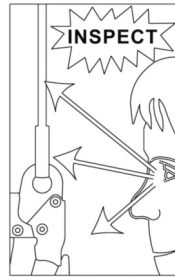

Figure 1
4. Connect to anchorage point: The anchorage device or anchorage point should always be positioned in order to minimize both the potential for falling and potential fall distance. You must choose a rigid anchor point location that will prevent free falls and swing falls hazards. The anchorage device or point must be placed above the position of the user. Make sure the anchor device or structural members both conform to EN795:2012 with a minimum strength of 12KN and the maximum angle from the vertical device is less than 40 degree (Figure 1).